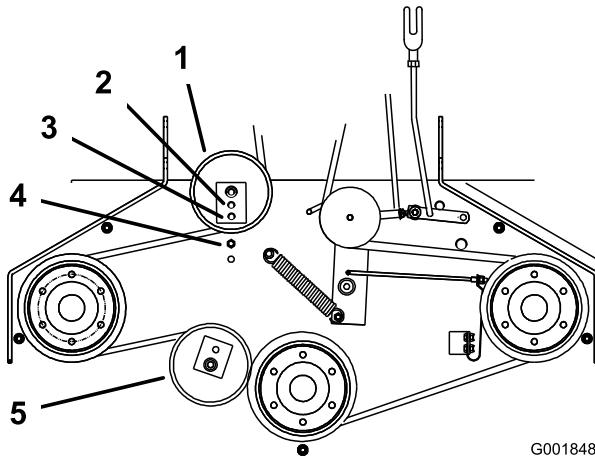

Figure 49
6. If there is no adjustment left in the turnbuckle and the belt is still loose, the rear idler pulley needs to be positioned to the middle or front hole (Figure 49). Use the hole that will give the correct adjustment.
7. When the idler pulley is moved the belt guide must be moved. Move the belt guide to the front position (Figure 49).